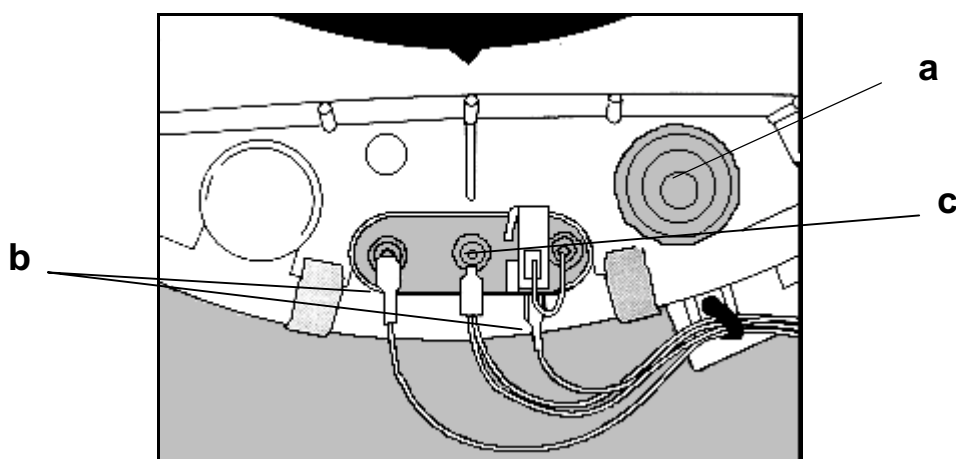

Figure-13
- Heater is removed (Figure-13)
- Thermostat bulb is removed (Figure-13)